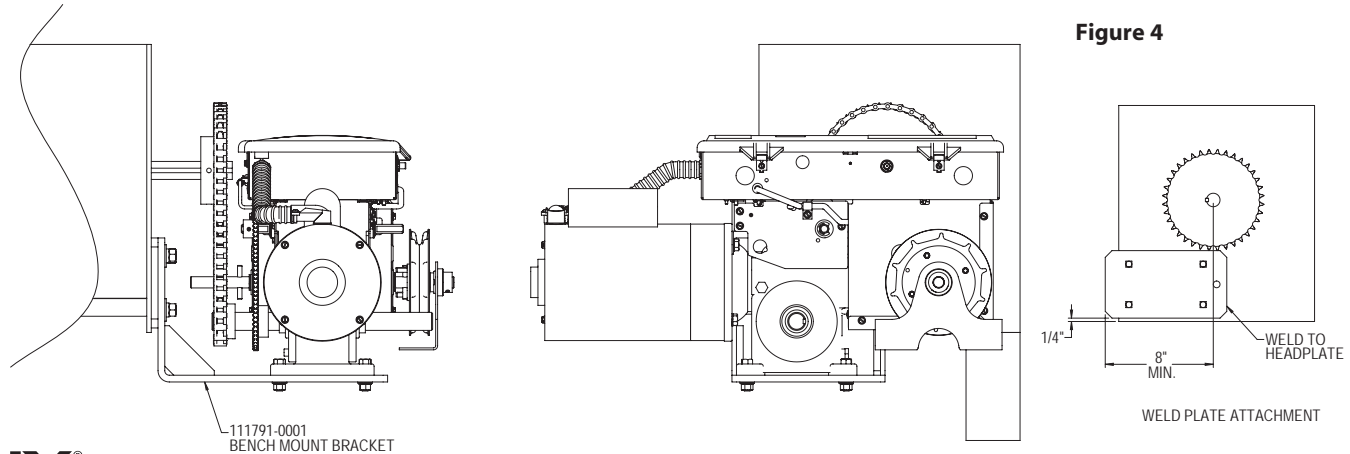

Figure 4
- 2) Weld the Rolling Door weld plate assembly to the door headplate, A minimum of two 1" weld beads are required on each side of the weld plate for proper attachment. See **Fig 4** for proper placement.